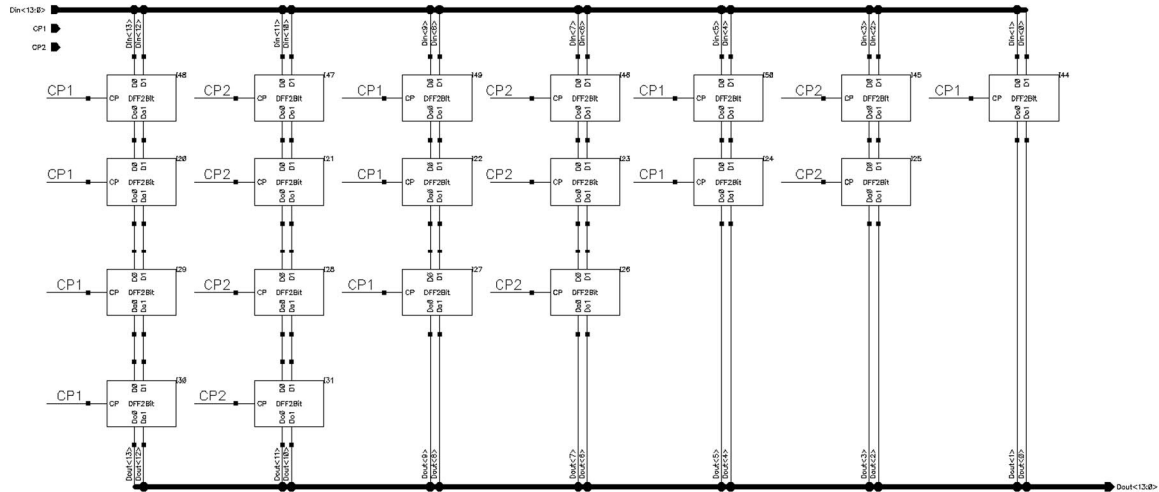

Figure 14. The shift register.
9. The **digital skew** and **code correction** units. Because of the pipeline structure, the ADC delivers a serial output code. The digital correction however, requires parallel inputs (i.e., aligned in time). A shift register has to be used, see Figure 14. The shift register **ShiftReg** and the digital correction unit **FullAdder** have already been designed for you.